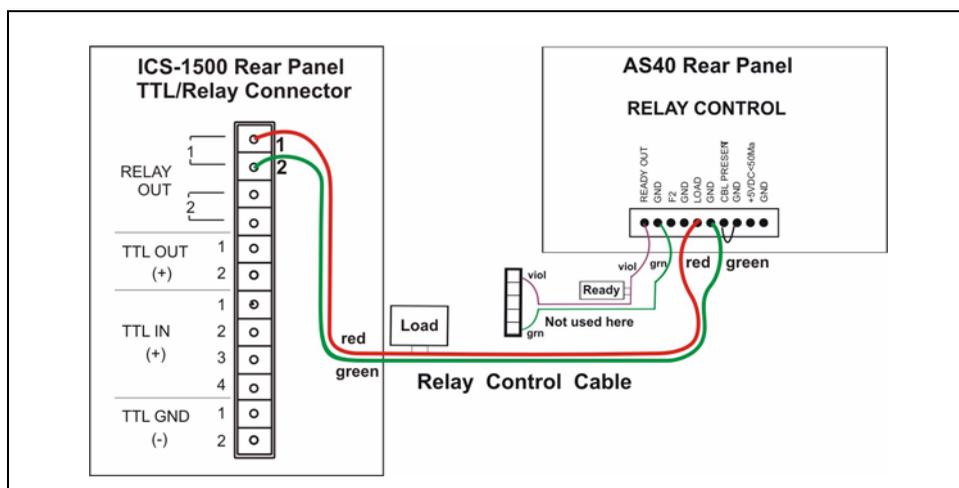

Figure B-45. Example AS40 Autosampler Connection
8. Connect the relay control cable's 10-position connector plug to the **RELAY CONTROL** connector on the AS40 rear panel (see Figure B-45).
9. Plug the 12-position connector plug into the TTL and relay connector on the ICS-1500 rear panel (see Figure B-45). Make sure the red wire connects to position 1 and the green wire connects to position 2.